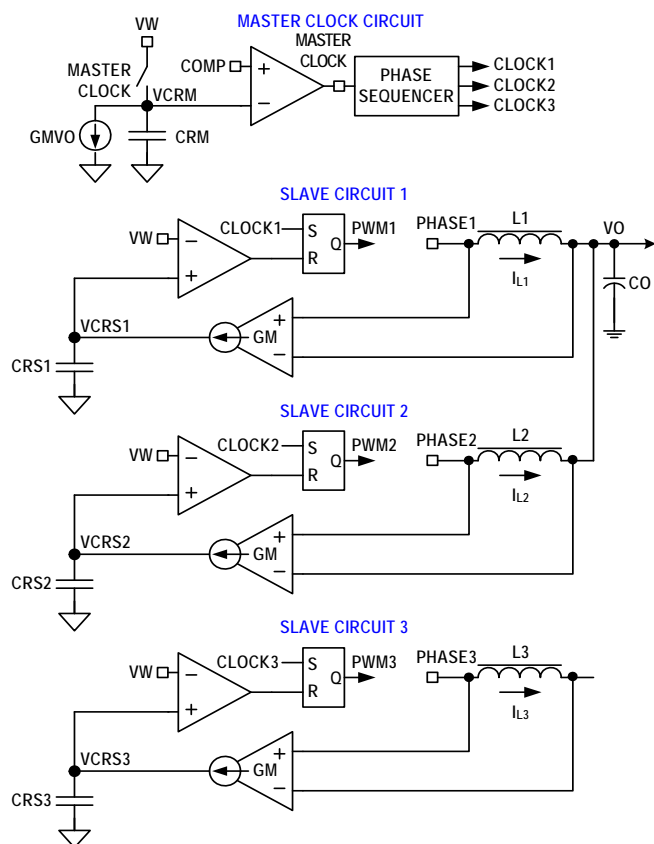
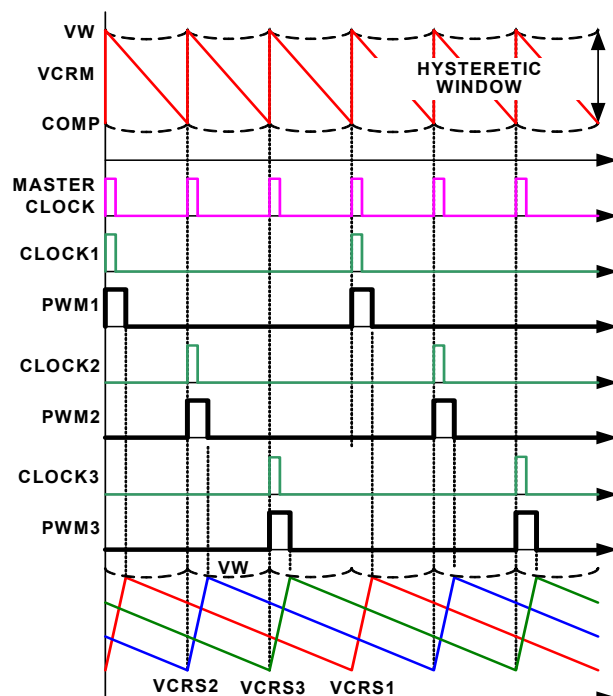

FIGURE 6. R³™ MODULATOR CIRCUIT
FIGURE 7. R³™ MODULATOR OPERATION PRINCIPLES IN STEADY STATE
The ISL6377 is a multiphase regulator implementing two voltage regulators, CORE VR and Northbridge (NB) VR, on one chip controlled by AMD's™ SVI2™ protocol. The CORE VR can be programmed for 1-, 2-, 3- or 4-phase operation. The Northbridge VR can be configured for 1- or 2-phase operation. Both regulators use the Intersil patented R³™ (Robust Ripple Regulator) modulator. The R³™ modulator combines the best features of fixed frequency PWM and hysteretic PWM while eliminating many of their shortcomings. Figure 6 conceptually shows the multiphase R³™ modulator circuit, and Figure 7 shows the operation principles.